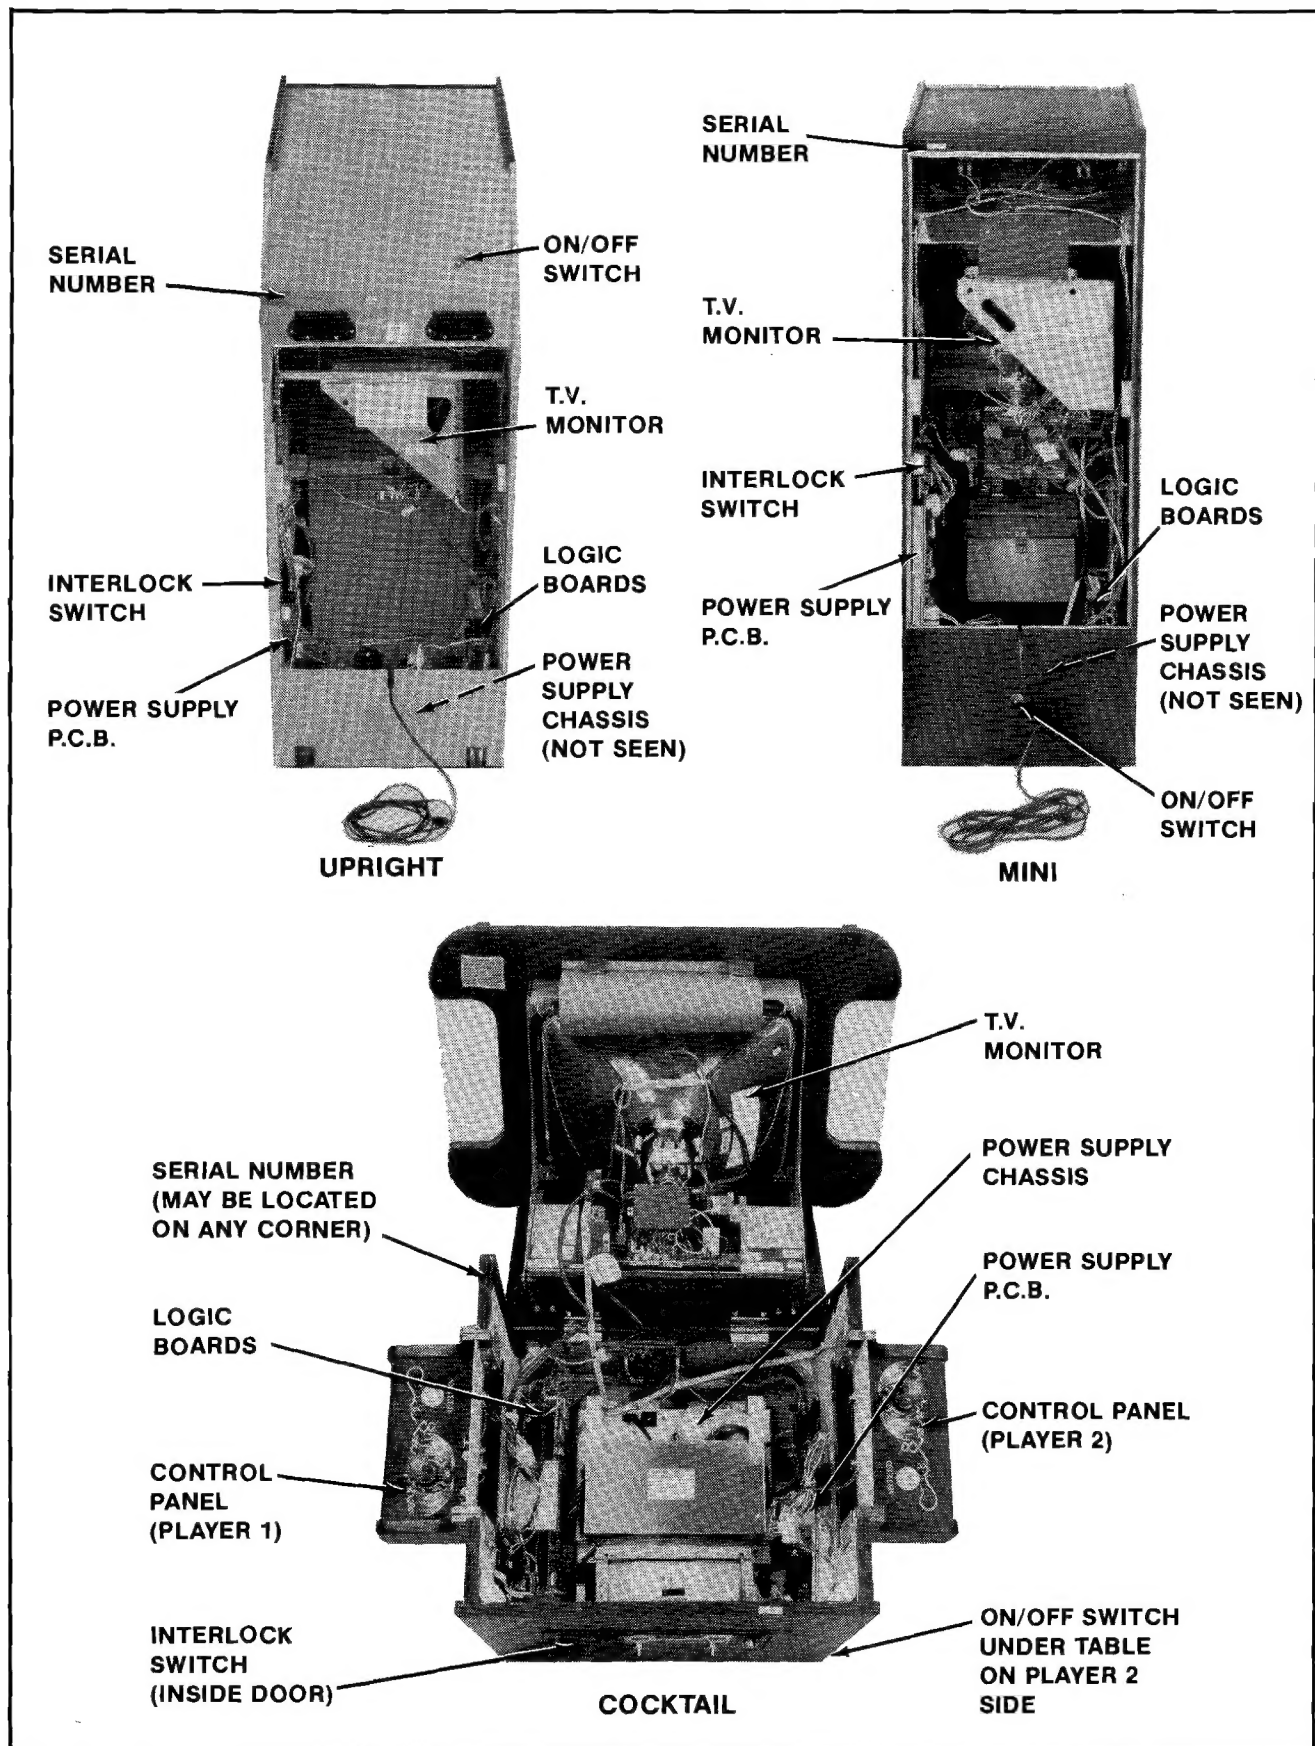

Figure 1-1 Location of Serial No., Interlock Switch, On/Off Switch, & Major Sub-Assemblies
5. Open the cabinet and inspect the inside of the game for any signs of damage. See Figure 1-1.
- ☐ Make sure all printed circuit boards (P.C.B.'s) are firmly seated in their connectors. See Figure 1-1. These connectors are also keyed. The P.C.B.'s will only go into them one way without being damaged.
- ☐ Note the location of the game's serial number. See Figure 1-1.
- ☐ Check all major subassemblies to be sure they are mounted securely. These are called out in Figures 1-1 & 1-2.
3. Interlock and power ON/OFF switches. See Figure 1-1.
The game ON/OFF switches for all models are located as shown in Figure 1-1. Turn the game on and allow it to warm up a few minutes.